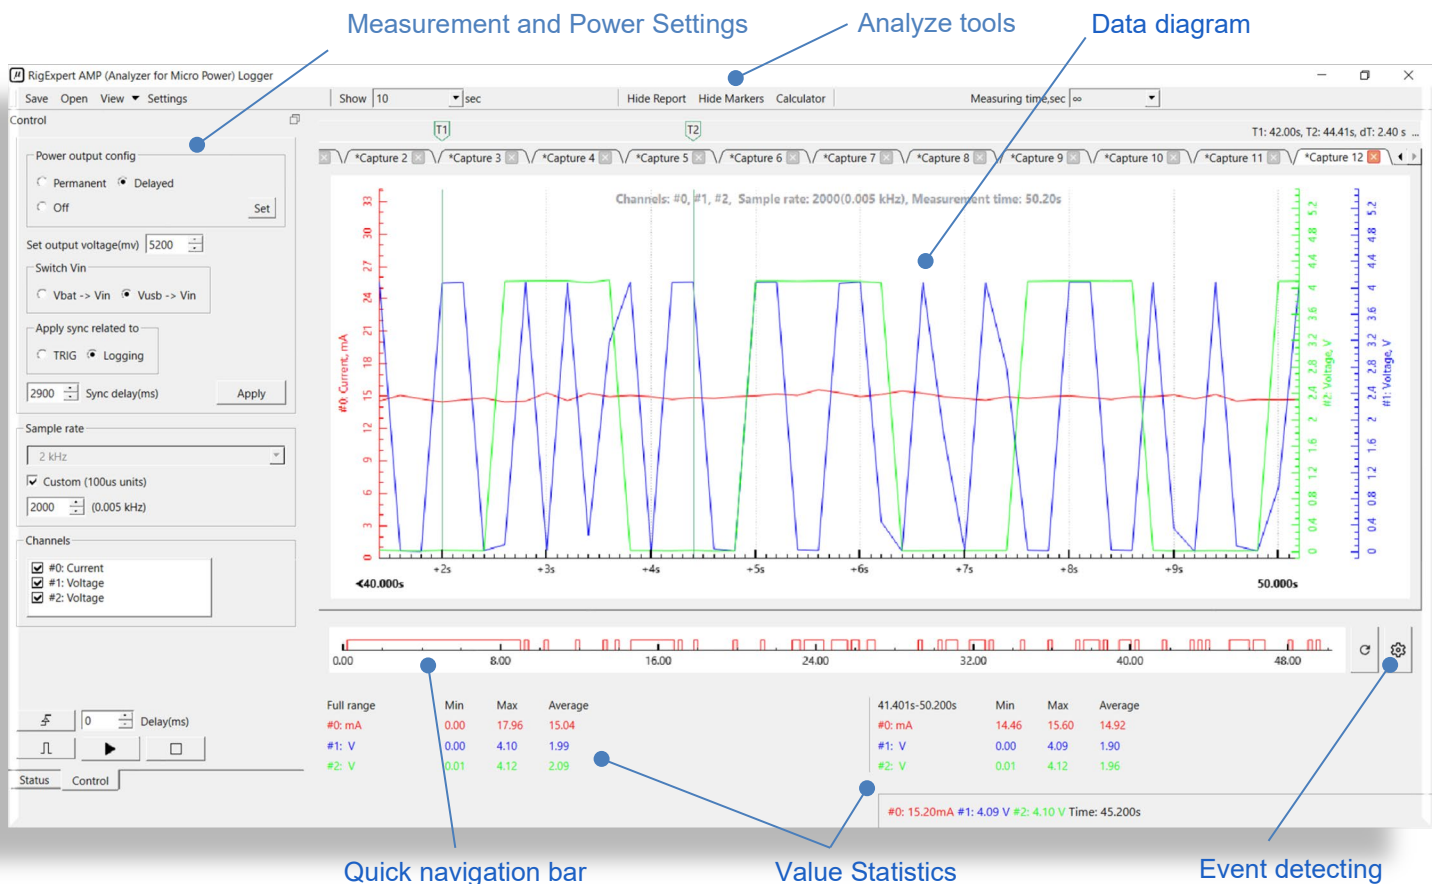

FIGURE 4.2: MAIN WINDOW
- Launch SW REAMP Logger and check the main window (see Fig.4.2).